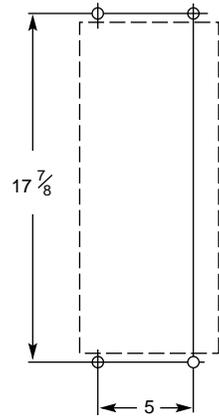

Figure 2-12. Template for Wall Mounting
- a. Using Figure 2-12 as a guide, mark the mounting screw locations on the plywood where you plan to install the Model 28xx.